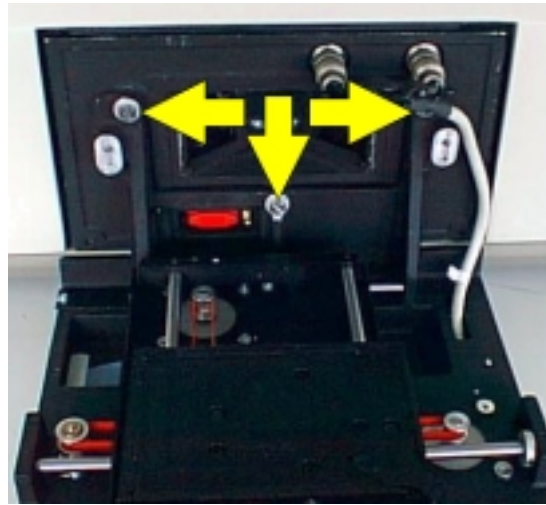

Figure 66 Plate Reader screws
7. Tighten the three screws that secure the Plate Reader to the LS-50B, as shown in Figure 66.